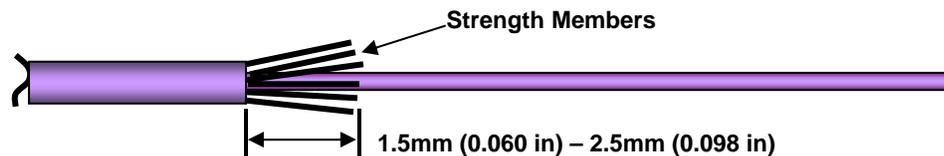

Figure 7-17 – Cutting the Strength Members to Length
- Step 3 - Carefully unbraid the strength members back to the double strength simplex cable outer jacket and cut to 1.5mm (0.060 in)-2.5mm (0.098 in) as measured from the outer jacket. See Figure 7-17.